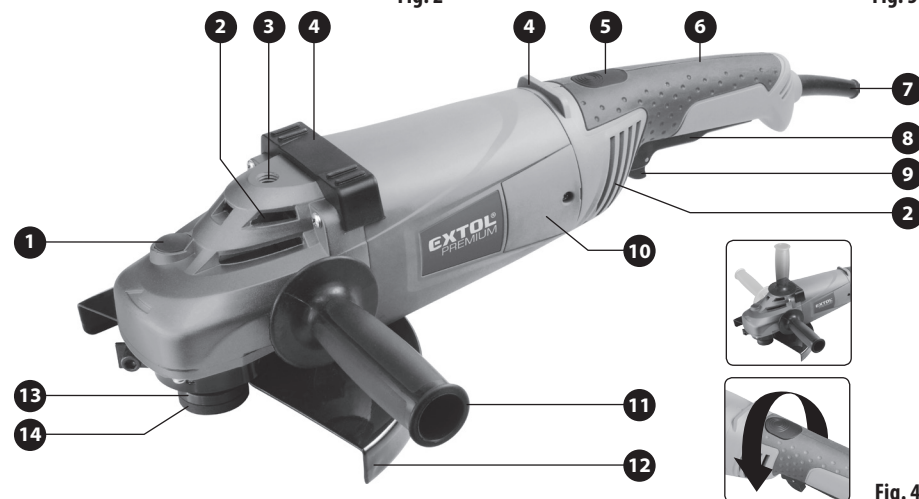

Fig. 4, position-description
- Fig. 4 shows the parts and control elements of the standard design of an angle grinder for larger diameter discs. These models may have, depending on the specific model, rotating main handles and have a safety mechanism on the trigger switch against accidental start up, whilst the trigger switch cannot be locked in the pulled down position. The disc guard may have a quick coupling or standard coupling system. On certain models the auxiliary handle can also be installed on the top part of the angle grinder to enable a more comfortable hold during planar sanding/grinding (see fig. 4).